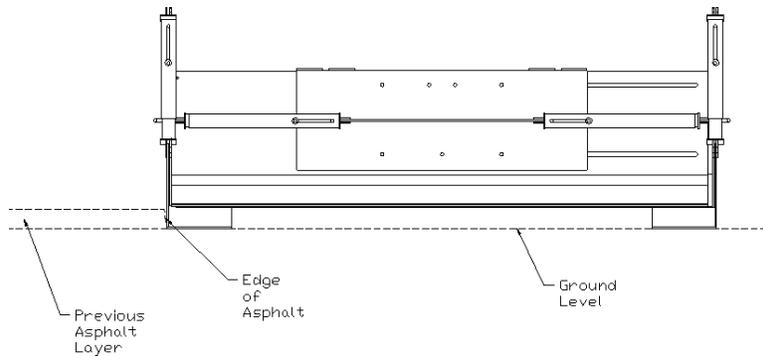
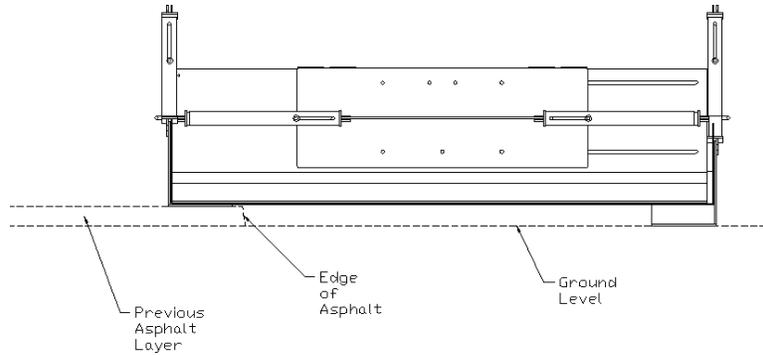

FIGURE 1 – SIDE BY SIDE
FIGURE 2 – OVERLAP
- Allows material to be applied in side by side paths. In situations such as paving a parking lot or spreading topsoil on a new yard, many side by side layers of material will need to be applied with no gap between each layer. There are 2 methods of accomplishing this. It is possible for an experienced driver to spread soft materials, such as sand, the thickness of the side of the material spreader apart from the previous layer. The side of the skid is only $\frac{1}{4}$ " thick, making very little gap to fill in (see FIGURE 1). Hard materials such as dirt and asphalt can be spread by even a poor driver with no gap between layers by pulling one skid of the material spreader up on to the last layer of material that was spread. Adjust the depth of material on that skid to 0", and the Material Spreader will now match the next layer of material to the edge and thickness of the last layer. (see FIGURE 2)